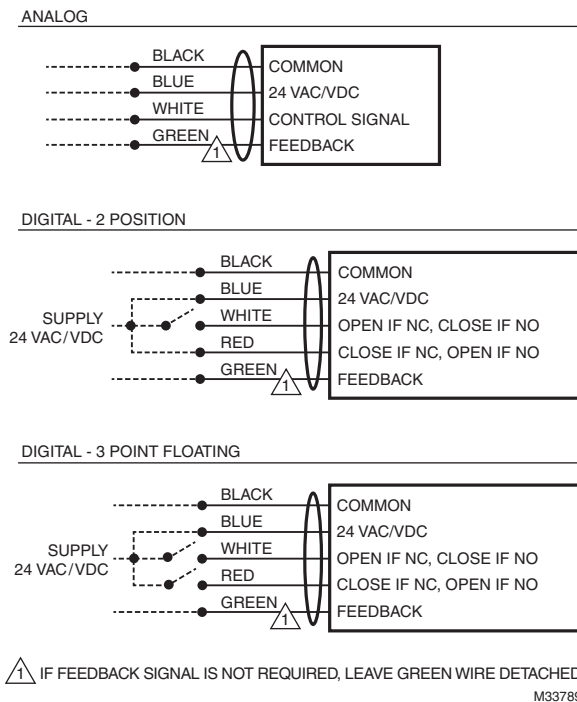

Fig. 5. Wiring Diagram
4. See Fig. 5 for wiring. If feedback signal is not required, leave green wire detached.